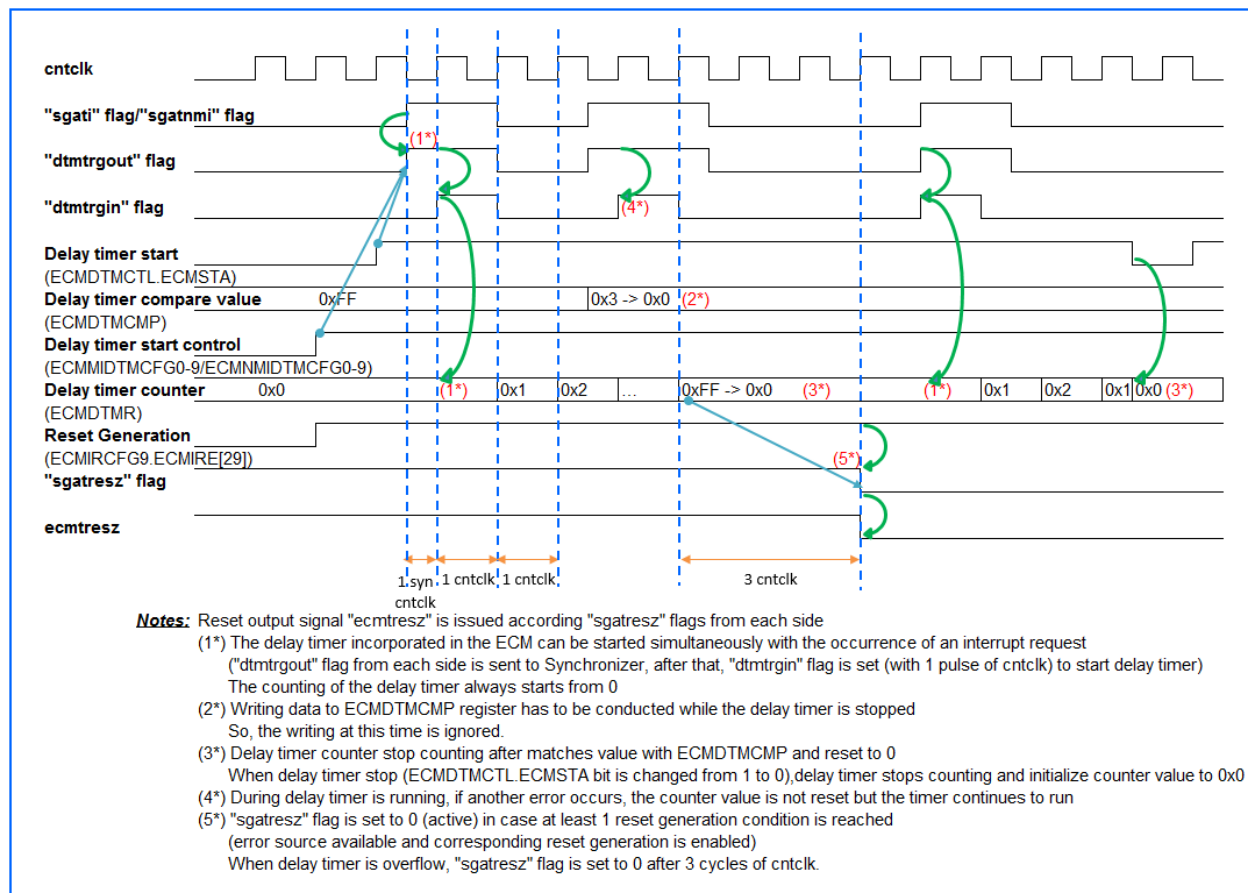

Figure 5.3: Internal reset issuing (2/2)
- When delay timer overflow occurs, “sgatresz” flag is set to 0 (active level) after 3 cycles of cntclk clock if bit ECMIRE[29] in ECMIRCFG9 is 1. (Figure 5.3)